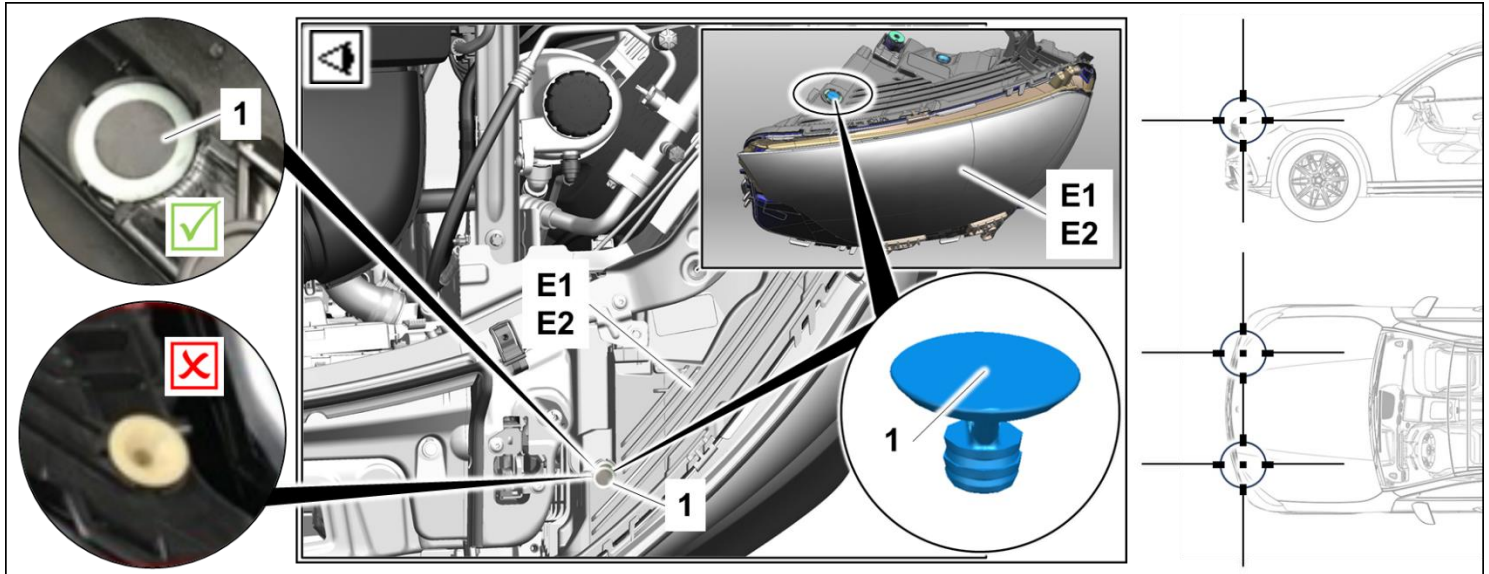

Figure 1 (Shown on driver side of vehicle)
1. Check if cap (Figure 1, 1) is installed in the area shown on the front left & right headlamps (Figure 1, E1 & E2).
- a. Caps (Figure 1, 1) **are** installed: **End measure**.
- b. Caps (Figure 1, 1) **are not** installed: Perform **Work Procedure**.
1. Check adjustment setting of front left & right headlamp unit (Figure 1, E1 & E2), and correct if necessary.
**i** After adjusting the left and right headlamp settings (Figure 1, E1 & E2), the horizontal adjustment for the low beams must not be changed.
2. Install caps (Figure 1, 1) on the left & right headlamp (Figure 1, E1 & E2).